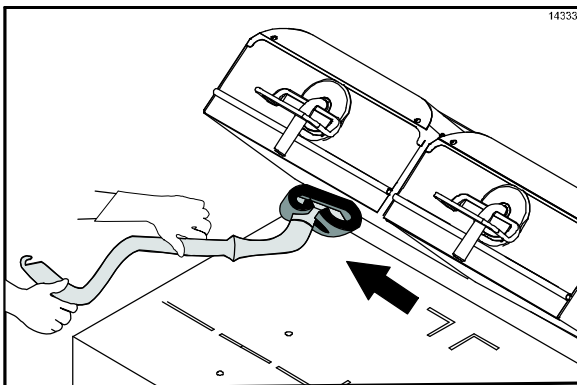

Figure 81
- Apply the grill cleaner to the platen surfaces, starting from the right platen to the left platen. (See Figure 81.)